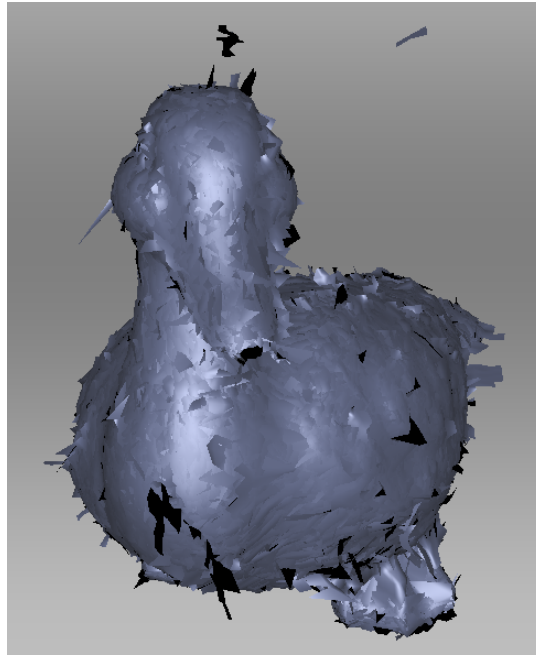

Figure 76: Alignment result.
4. Click *Align...* to run the alignment with your specified constraints (Figure 76 shows example results). If you are dissatisfied with the alignment results, click  and specify additional point sets, or reposition the current sets. To redo an operation that you have undone, click .